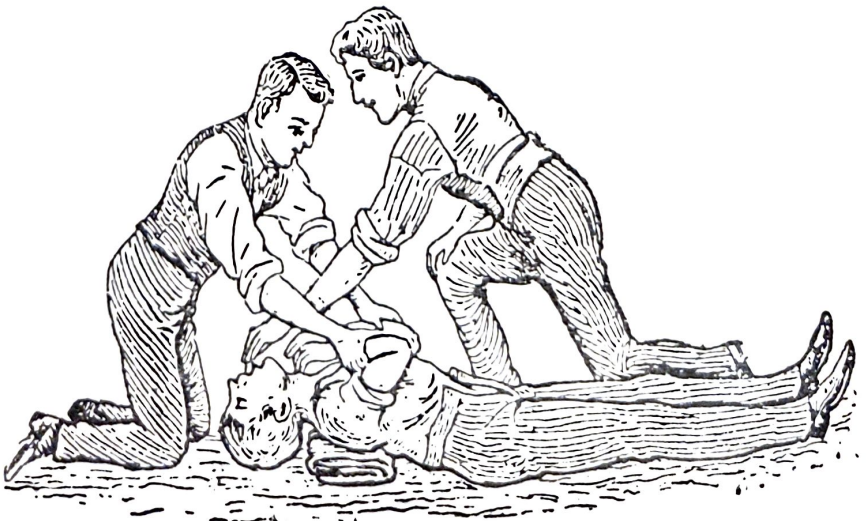

Fig. 6. Expiration.
- (ii) **TO INDUCE EXPIRATION.**—Bring the victim's arms slowly forward, downwards, and inwards, press the elbows firmly on the chest on each side of the breast-bone; by this means air is expelled from the lungs. (See Fig. 6).